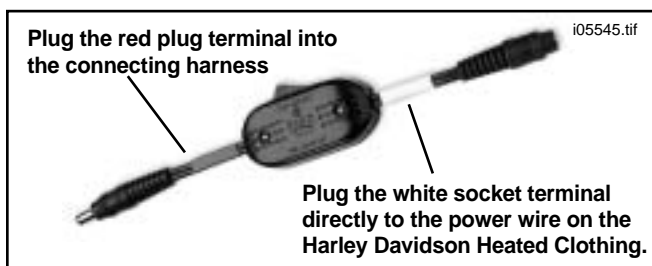
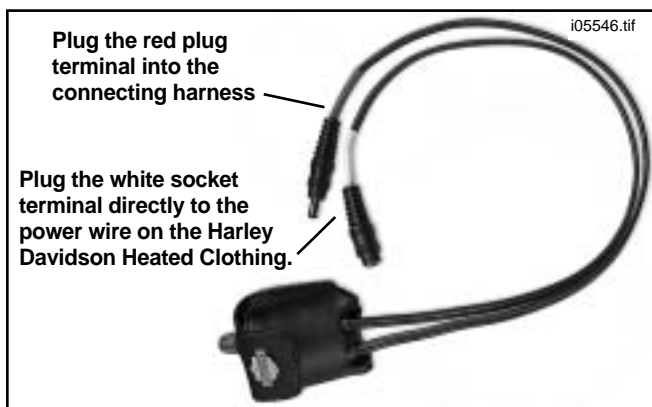

Figure 4. Power Switch 98115-04V
Figure 5. Optional Portable Thermostat 98540-04V
1. Plug the red plug terminal on the standard power switch (see Figure 4) or optional thermostat (Figures 5 or 6) into the red socket terminal from the connecting harness. **If the thermostat is not plugged in correctly, it will not work.** The thermostat may be mounted to the motorcycle using the provided Velcro® strips.